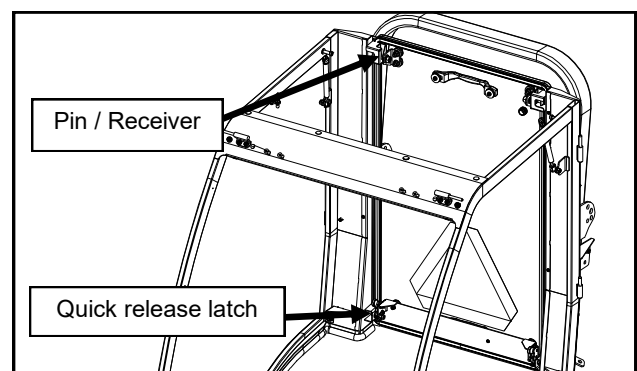

Fig. 14.2 (rear panel installation)
**14.2** Lift rear panel and insert the upper pins into the receivers on the rear legs. Engage the lower quick release latches at this time. See Fig. 14.2.
*Note: The quick release latches require (2) clicks to be fully locked. Press the rear panel in from the outside in these locations to double click the latches.*